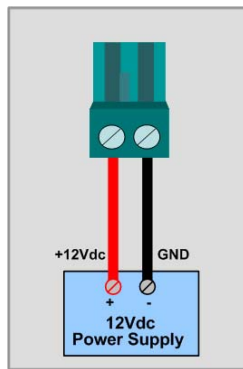

Figure7. Power Supply-2
- As shown in Figure 7, connect it to power.